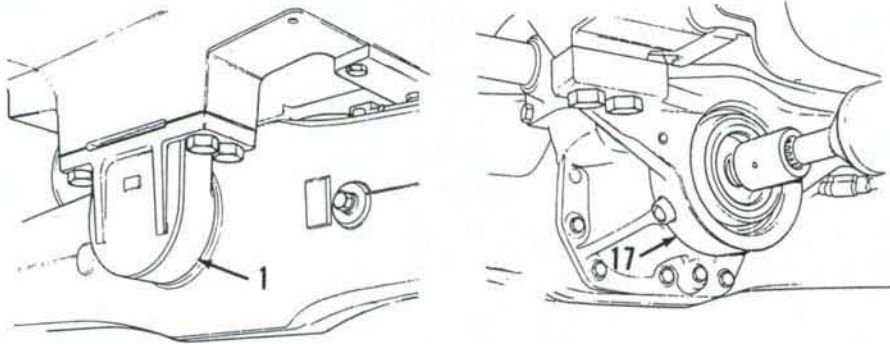

Fig. 10—View of front and rear pivot brackets (1 & 17) installed. Four screws are used to attach each bracket to front support.
**10. R&RASSEMBLY.** First remove the drive shaft and shield as outlined in paragraph 9. If differential unit is to be serviced, it is recommended that the bevel pinion shaft nut be loosened at this time. Pry out pinion shaft oil seal, then loosen nut using special pinion nut wrench FT3168 or equivalent. Remove front weights. Raise front of tractor in such a way that it will not interfere with the removal of the axle. A hoist may be attached to front support or special stands can be attached to sides. Remove front wheels, then support the axle with a suitable jack or special safety stand to prevent tipping while permitting the axle to be lowered and moved safely. Disconnect hoses from the steering cylinder and cover openings to prevent the entry of dirt. Unbolt and remove front and rear pivot brackets (1 and 17—Fig. 10), lower axle until free, then carefully roll axle away.